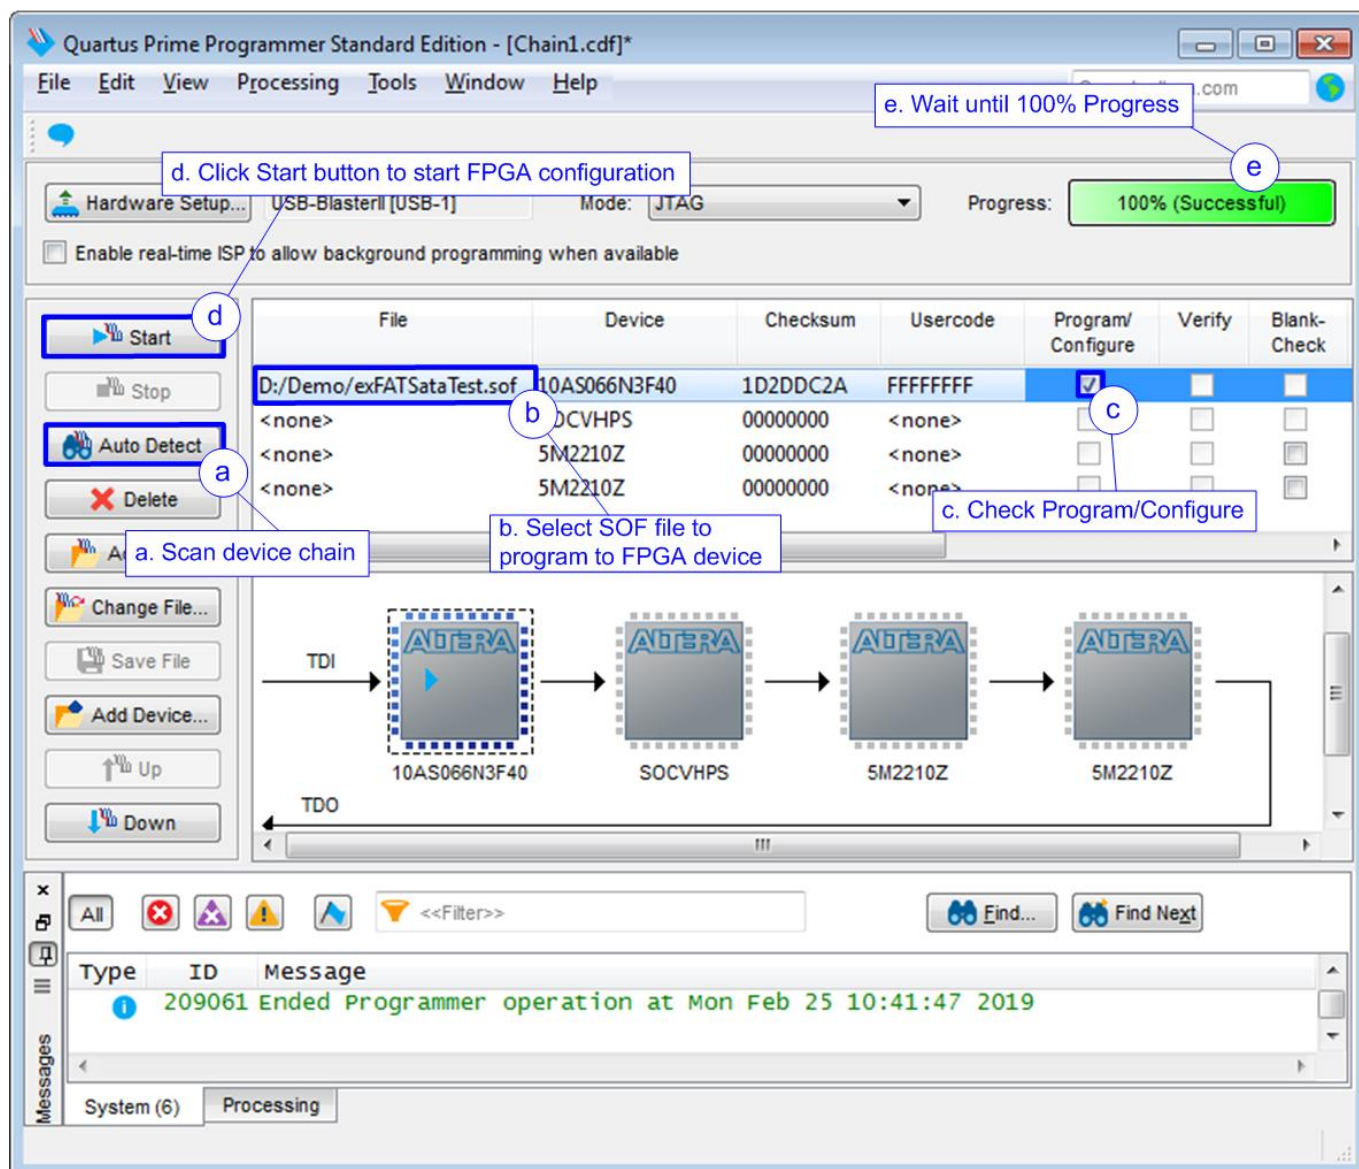

Figure 2-3 Programmed by QuartusII Programmer
5) Use QuartusII Programmer to program “exFATSataTest.sof” file, as shown in Figure 2-3.